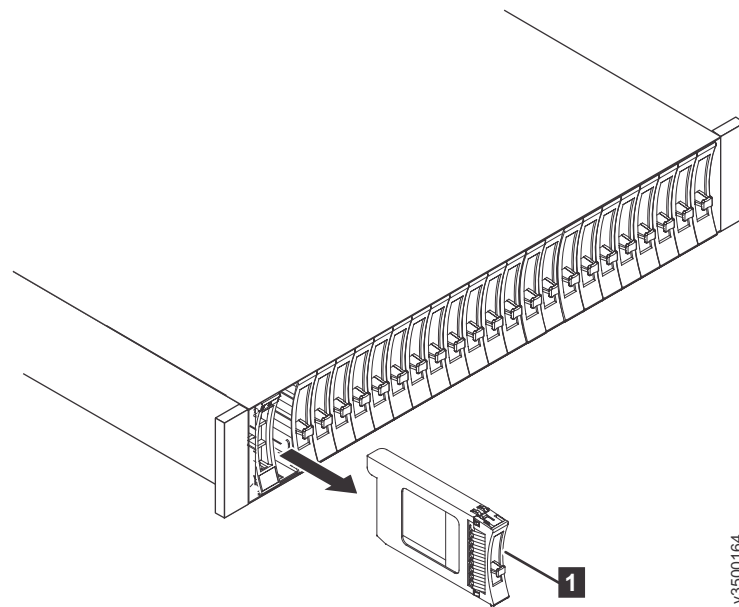

Figure 23. Removing a filler panel
1. Remove the filler panel from the slot into which you want to install the drive (as shown in Figure 23).